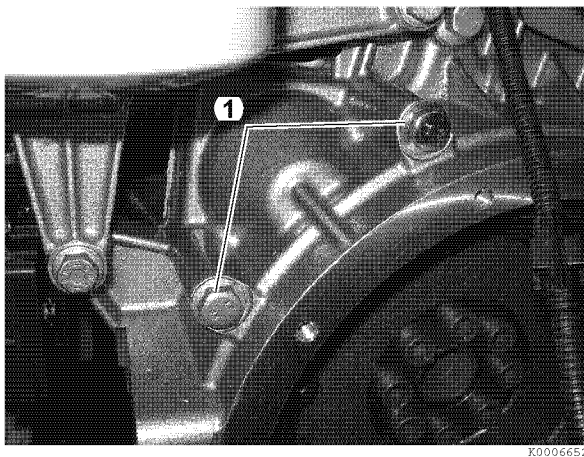

Figure 10-3
4. Remove bolts (1, **Figure 10-3**) securing the starter motor to the flywheel housing.